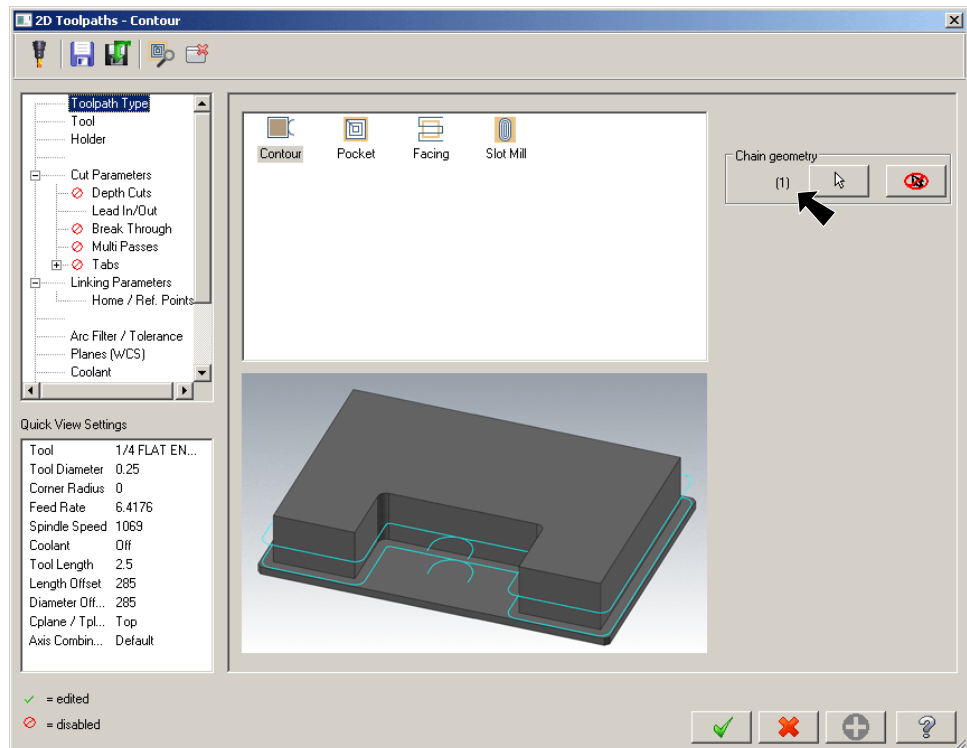

Fig. 55
Step 6. In the 2D Toolpaths Contour dialog box confirm **1 Chain** **Fig. 55**.